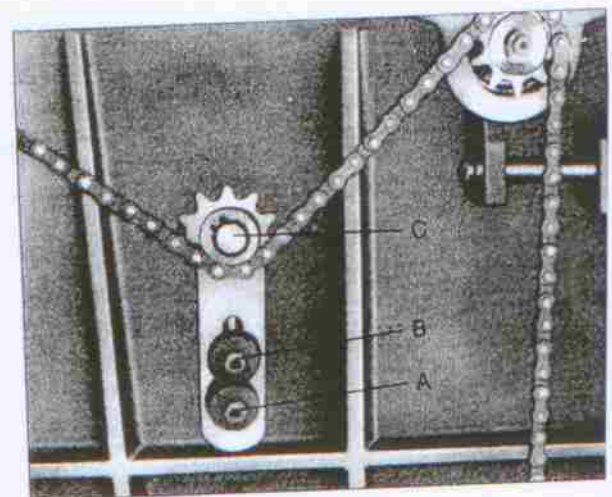
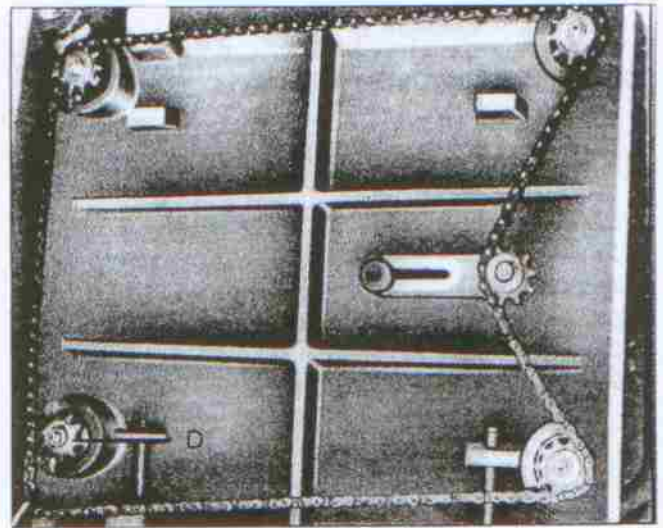

Fig 25
Fig. 26
2. Tilt planer on its side to expose underside of base as shown in Fig. 25.
3. Remove bolt (A) and loosen bolt (B) Fig. 25, which will allow you to move the idler sprocket assembly (C) far enough to release tension on chain, as shown in Fig. 26.
4. Remove chain from sprocket on corner of base that must be adjusted. In Fig. 26 chain has been removed from sprocket (D).
5. Turn sprocket (D) Fig. 26 by hand to bring that corner into adjustment with other three corners.